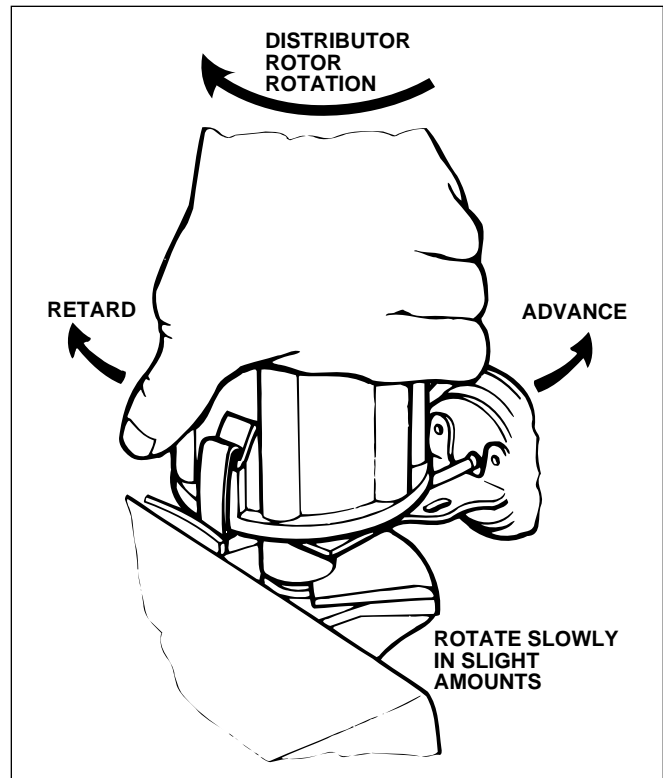

Fig. 5-27. Slowly rotate the body of a conventional distributor to adjust ignition timing.
6. Rotate the distributor housing until the proper marks are aligned, figure 5-27